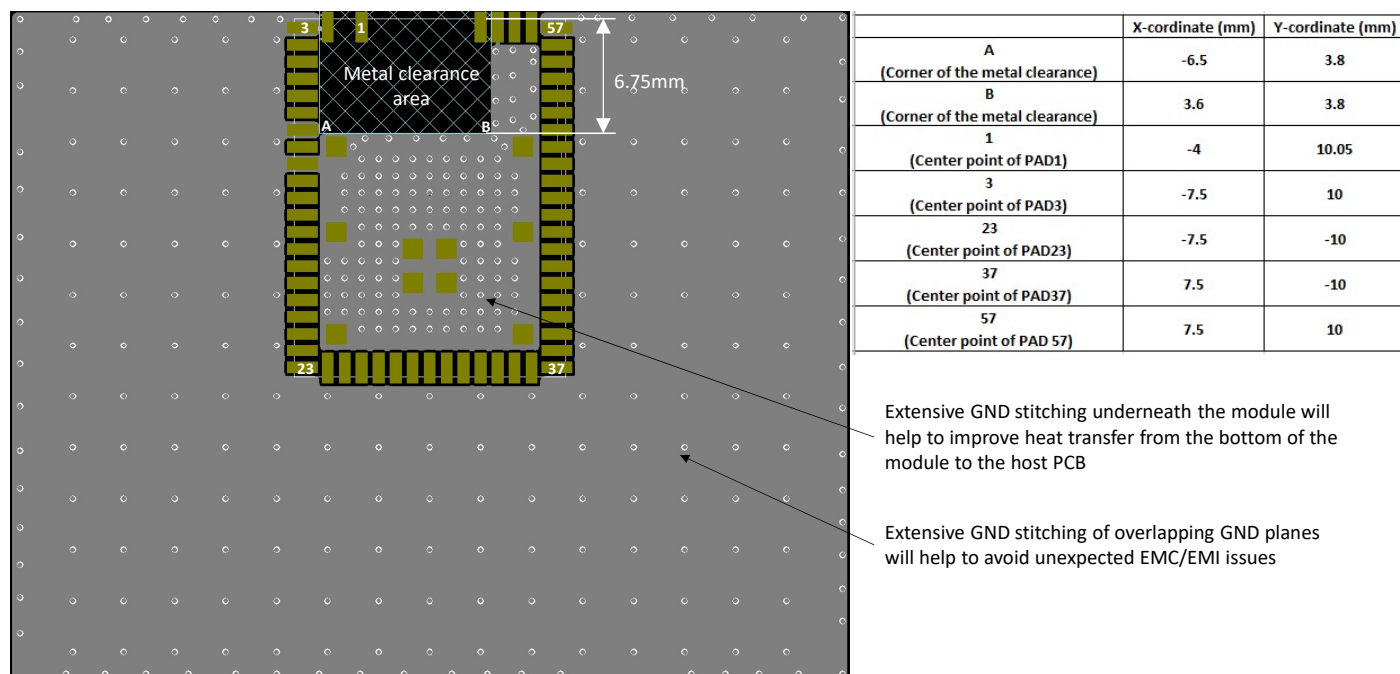

Figure 3.7. Application Layout of RS916AC1
- Place the module aligned to the edge of the application PCB, as illustrated in Figure 3.7 on page 57.